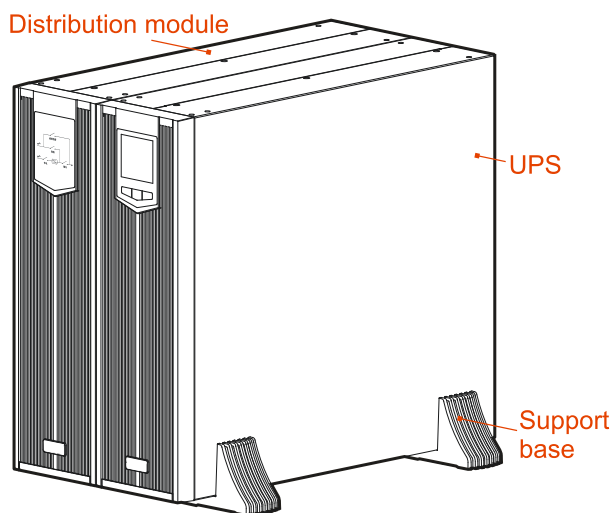

Figure3-7 Install the UPS and distribution module
Step 2 Put the UPS and distribution module onto the assembled support base, as shown in Figure3-7.